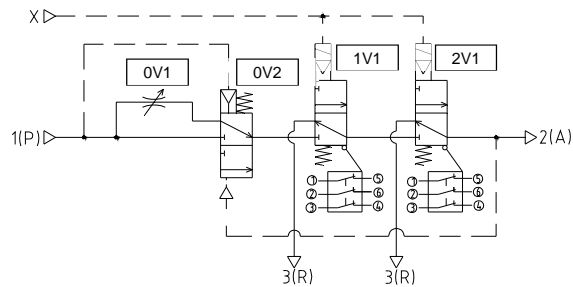
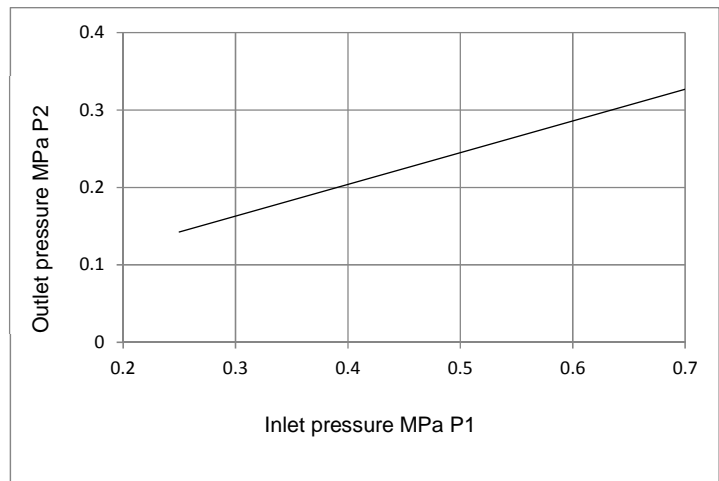

Figure 4 External pilot, Rockwell switch variant
Figure 5 Switching pressure (Close → Open) of soft start-up valve 0V2
In a safety related application, the machine safety system will energise the safety dump valves (1V1 and 2V1 in Figure 4) when the machine is safe for operation. When both valves are energised air will flow into the protected system via port 2 (A). The flow is initially limited by needle valve 0V1 and pressure in the protected system will remain low as the system fills or actuators move slowly. The pressure will eventually rise as the system becomes full or the actuators stop moving. As P2 pressure increases (see Figure 5) valve 0V2 switches and valve 0V1 is by-passed. In this condition air will flow into the protected system according to the figures given in section 2.3.